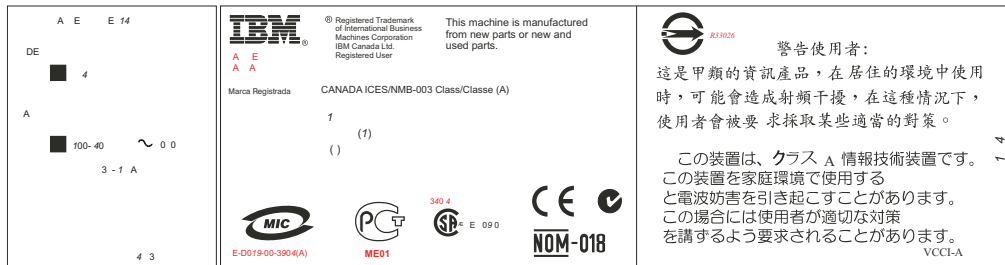

Figure 3. Agency/ratings label for SAN Volume Controller
1. Agency/ratings label. See Figure 3 on page xvi.